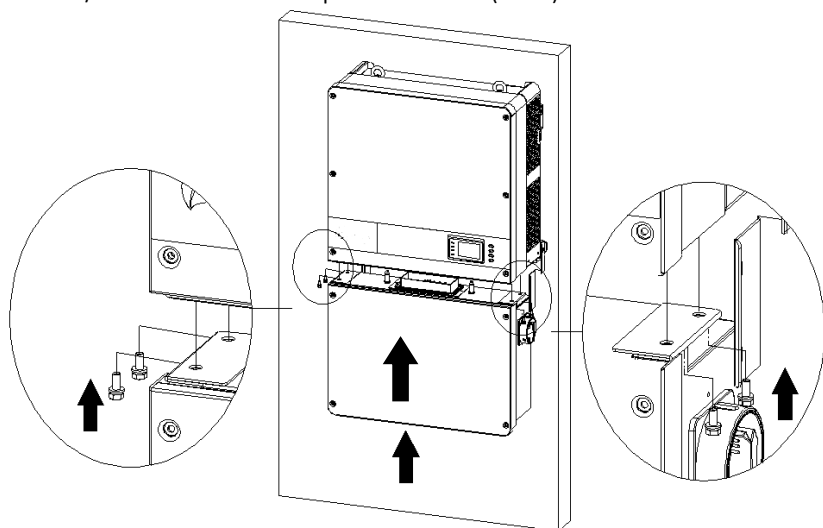

Figure 2.12 - Wiring Box Installation
- ③ Connect the wiring box to the main section, using M6x18 screws (4pcs) to secure the wiring box. (see Figure 2.12)